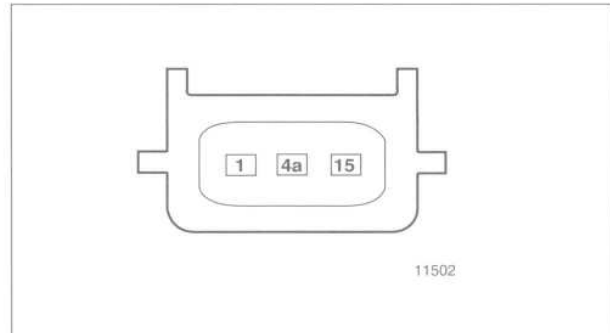

Fig. 7. Ignition coil harness connector terminal identification for M50 and M60 engines.
- Disconnect the harness connector from the coil. Connect a voltmeter between terminal 15 (+) in the harness connector and ground. See Fig. 7. Turn the ignition on and check for battery voltage.